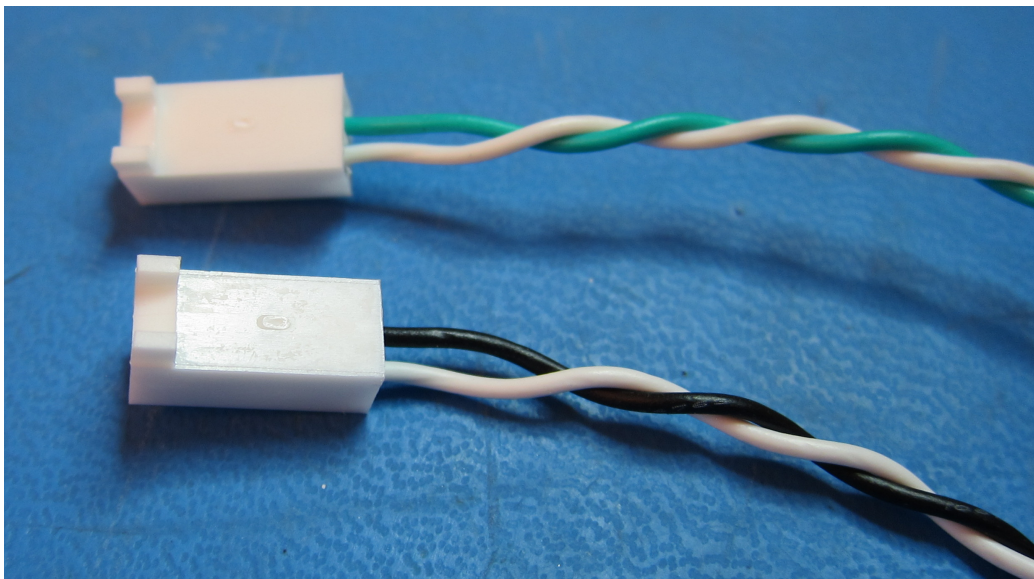

Figure 3: Temperature sensor connectors.
11. Insert the pins into the connector body (Molex 22-01-3027), see Figure 3.